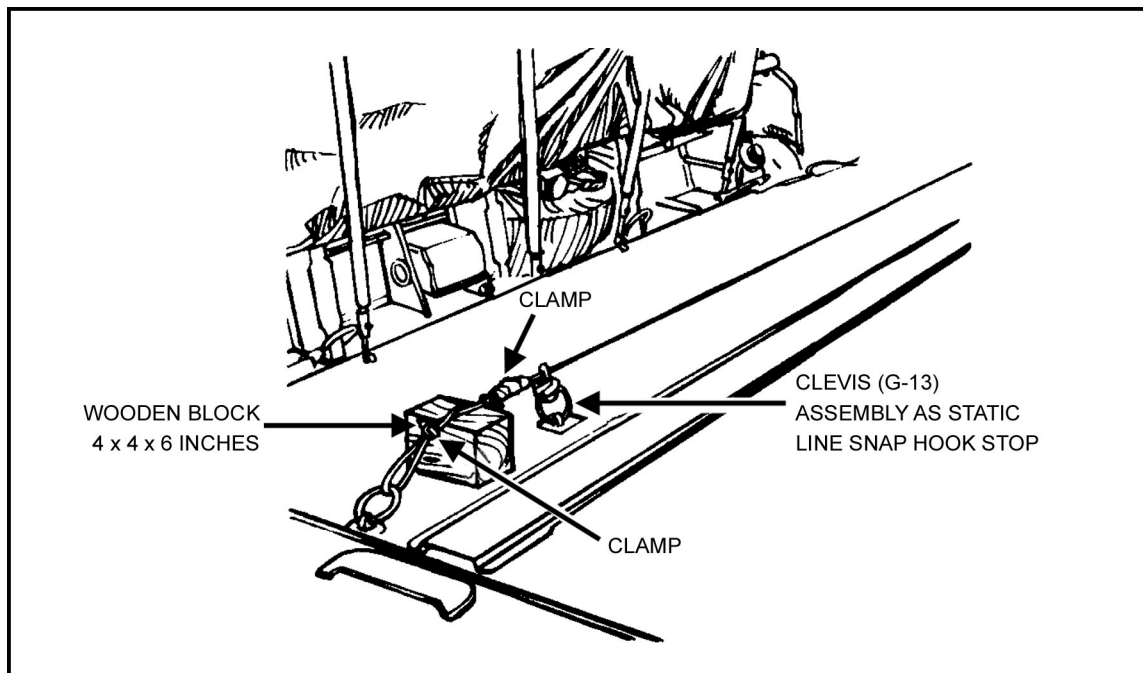

Figure 18-2. CH-53 anchor line installation.
(1) Install the anchor line cable on the port side of the floor (Figure 18-2) using the tie-down fittings at station number 182 (forward attachment point) and station number 522 (rear attachment point).
(2) Use one 1/4-inch or 3/8-inch steel cable, of an acceptable length, with four clamps, lock washers, and bolts.
(3) Place two 4- by 4- by 6-inch wooden blocks between the anchor line cable and floor and attach a clevis assembly (G-13) to the tie-down ring at station number 502 for use as a static line snap hook stop.
(4) Remove excess slack from the anchor line.
(5) Turn over and secure the conveyor rollers in the down position with the smooth surface up.
(6) Ensure parachute is equipped with a 5-foot static line extension (NSN 1670-00-368-4225).